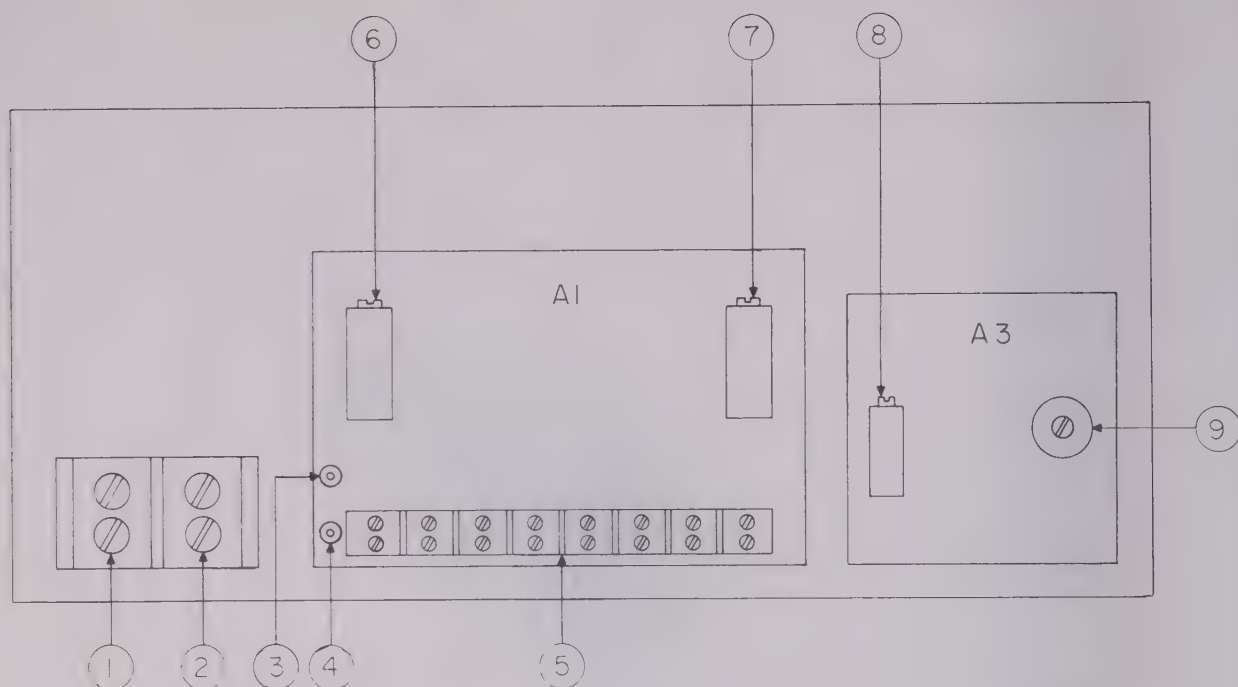

FIG. 2-3 TERMINATIONS, REAR
Note: Refer to Fig. 2-2 and Fig. 2-3 for location of front and rear terminations.
- e) Adjust R42 Calibrate Control, for precisely 5.00 volts, (On printed circuit amplifier board, Fig. 2-3). Close S-1. Adjust R_t for precise Zero on the voltmeter.
- c) Turn power supply "on". With S-1 in position as shown, adjust R40 (Refer to Fig. 2-3 for location) to the exact maximum output current (10A). Transfer SW-1 to position 6 and adjust for exact zero output current.